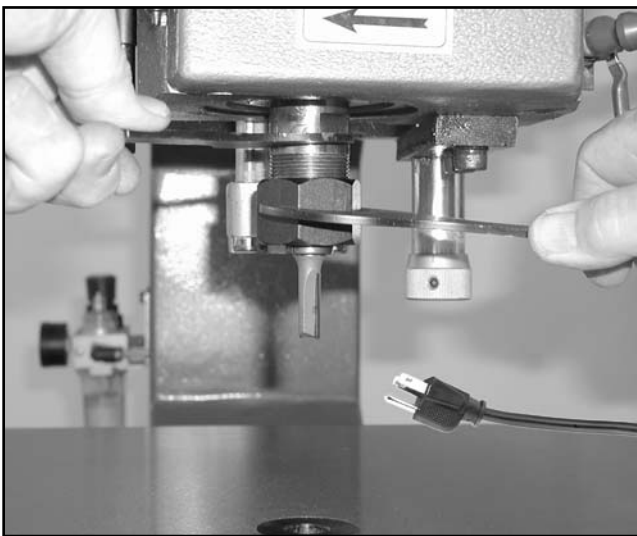

Figure 9. Tightening the collet nut.
1. Place one wrench on the flats of the spindle as shown in **Figure 9**.